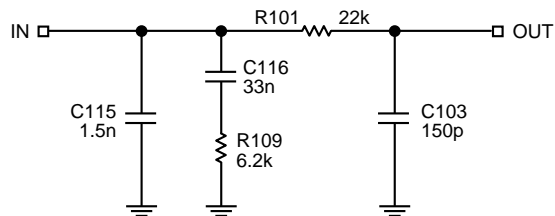

Figure 6. Third Order Loop Filter
- FSK modulation can be applied to the crystal oscillator. The extra external components needed to implement this type of modulation are shown in Figure 6. A, N and M values corresponding to the receive frequency and the low transmit frequency have to be found. The values corresponding to the low transmit frequency should be programmed in dividers A1, N1 and M1. In transmit mode, set DataIXO='1' and tune the trimming capacitor until the output frequency that corresponds to data '1' is reached. Check that the output frequency equals the low FSK frequency when DataIXO='0'.